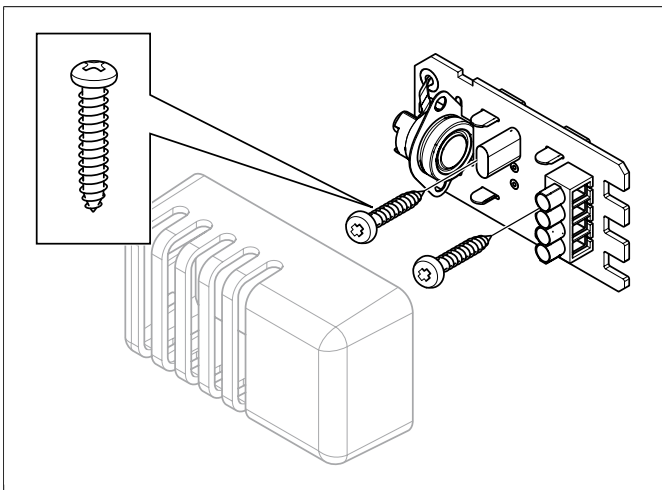

Figure 14: Installing the sensor
12. Install the sensor on the wall see **Figure 14**, Page 6.